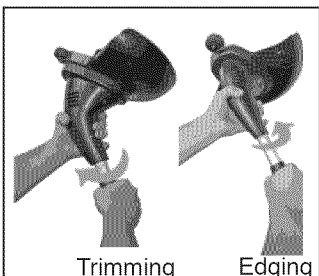

Figure 14 - Adjusting shaft length
1. Adjustments to length and location of the cutting head is performed by gripping the shaft collar with one hand and the motor housing with the other. (See Figure 14)